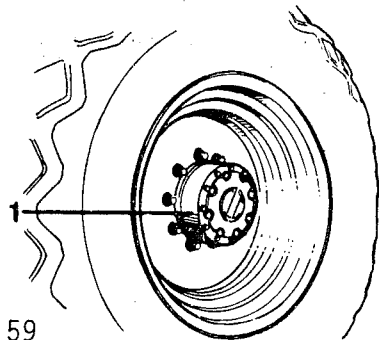

Fig 59
- 5 Drive the roller so that the oil plug hole is in the position shown in fig 59.